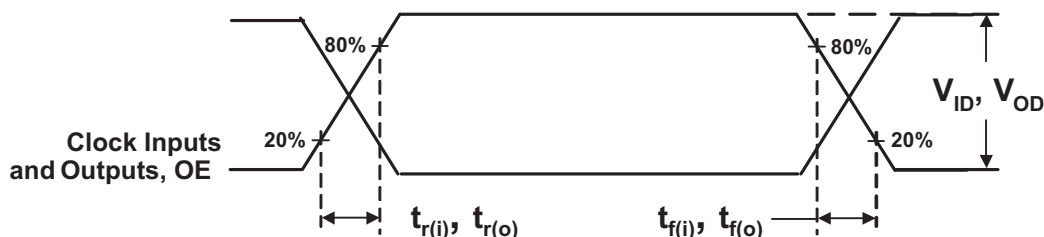

Figure 9. Input and Output Slew Rates
- (1) The PLL is turned off and bypassed for test purposes when AVDD is grounded. During this test mode, VDDQ remains within the recommended operating conditions and no timing parameters are specified.
- (2) VID is the magnitude of the difference between the input level on CK and the input level on  $\overline{\text{CK}}$ , see Figure 9 for definition. The CK and  $\overline{\text{CK}}$ , VIH and VIL limits define the dc low and high levels for the logic detect state.
(1) VOD is the magnitude of the difference between the true and complimentary outputs. See Figure 9 for a definition.(2) Total IDD = IDDQ + IADD = fCK × CPD × VDDQ, solving for CPD = (IDDQ + IADD)/(fCK × VDDQ) where fCK is the input frequency, VDDQ is the power supply, and CPD is the power dissipation capacitance.